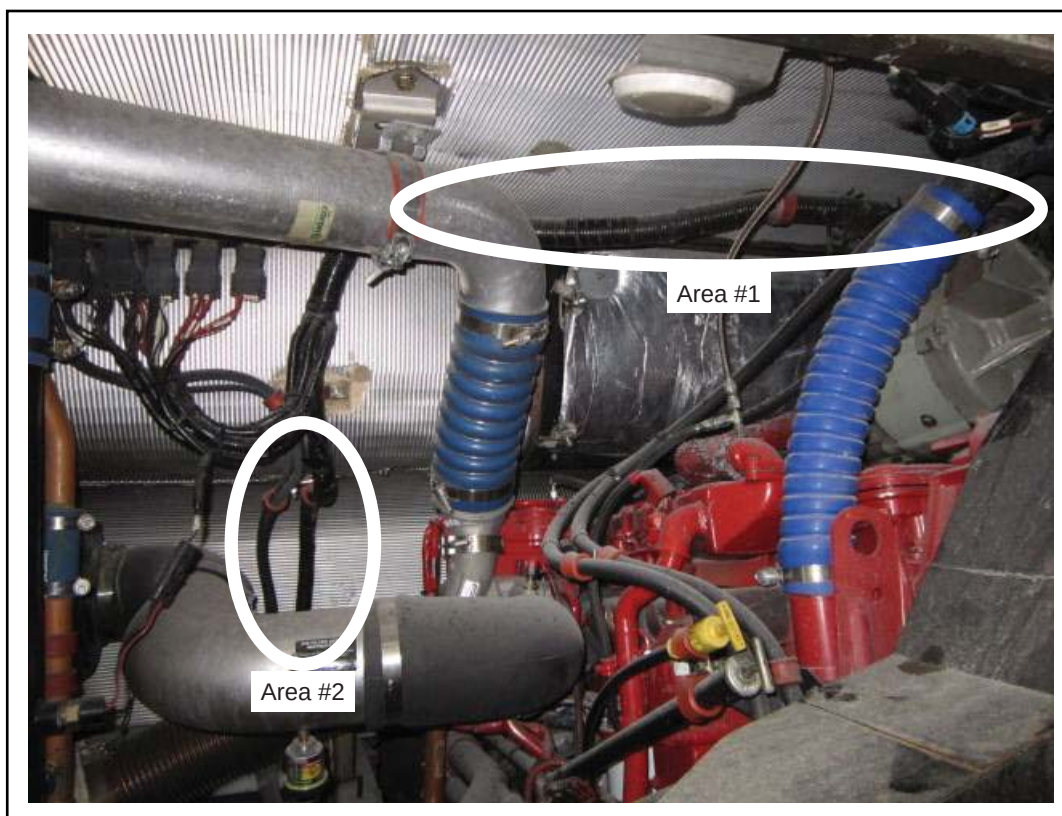

Figure 1 - Location to Look at on the WHA 61 Electrical Harness (View from Engine Radiator Side)
- 1.5. Remove the P-clamps on the WHA 61 electrical harness located in the two areas close to the engine turbo. See Figure 1. Retain the hardware.
- 1.6. Inspect the slit convoluted conduit in area #1. See Figure 1.
- 1.13. Inspect the slit convoluted conduit in area #2. See Figure 1.